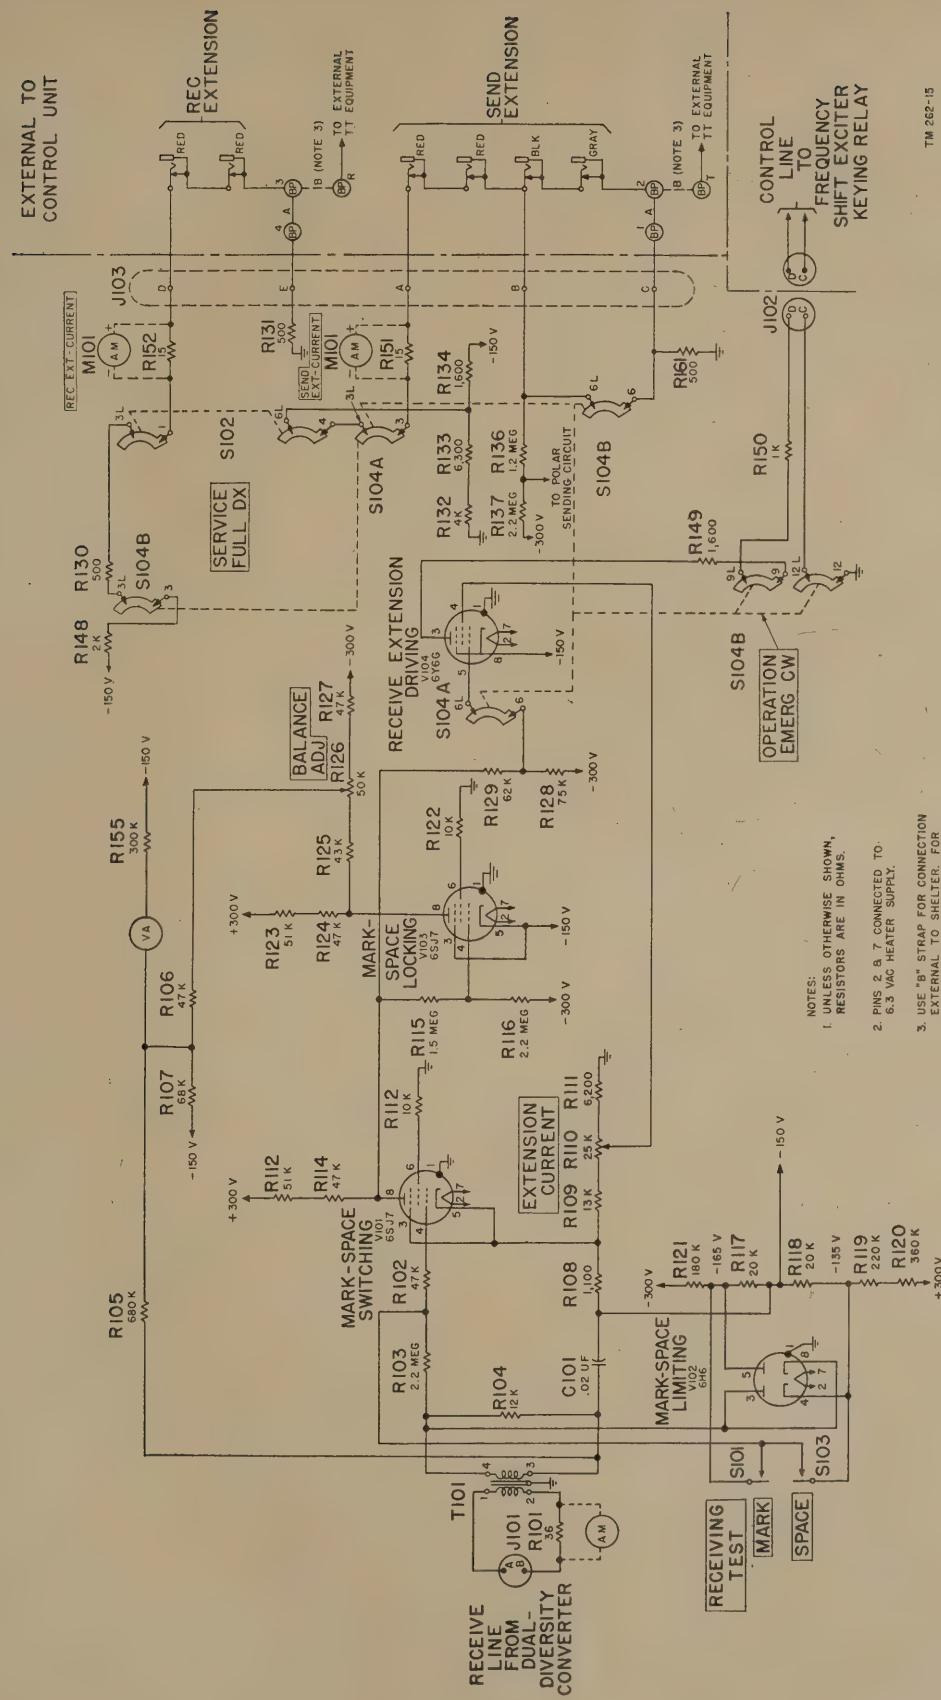
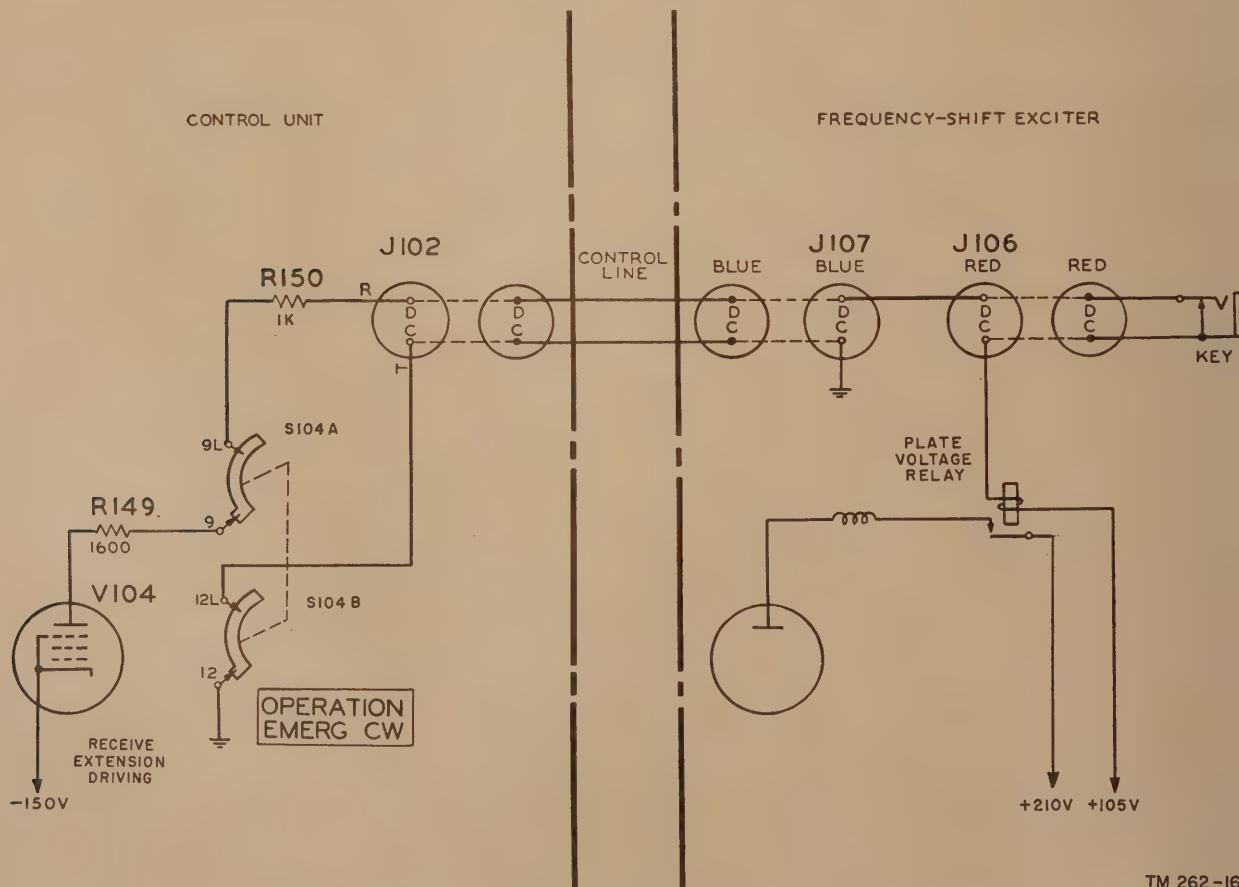

Figure 21. Control unit arranged for emergency C-W operation.
Figure 22. Keying control circuit for emergency operation.
### 35. Emergency C-W Keying (figs. 21 and 22)
a. In emergency c-w keying operation, the transmitter carrier is interrupted as in normal radio code transmissions. When OPERATION switch S104 on the control unit is turned to EMERG CW position, and the OUTPUT knob on the dual-diversity converter is turned to the SPACE position, the radio transmitter carrier may be keyed from the receiving shelter. These manual signals are transmitted by the dual-diversity converter as polar signals which operate the sending circuit of the control unit, as shown in figure 21. A simplified diagram of the keying control circuit between the control unit and frequency shift exciter is shown in figure 22. With OPERATION switch in EMERG CW position, the plate of receive extension driving tube is connected, through resistor R149, through section A of OPERATION switch S104, and through resistor R150, over the control leads to the FS